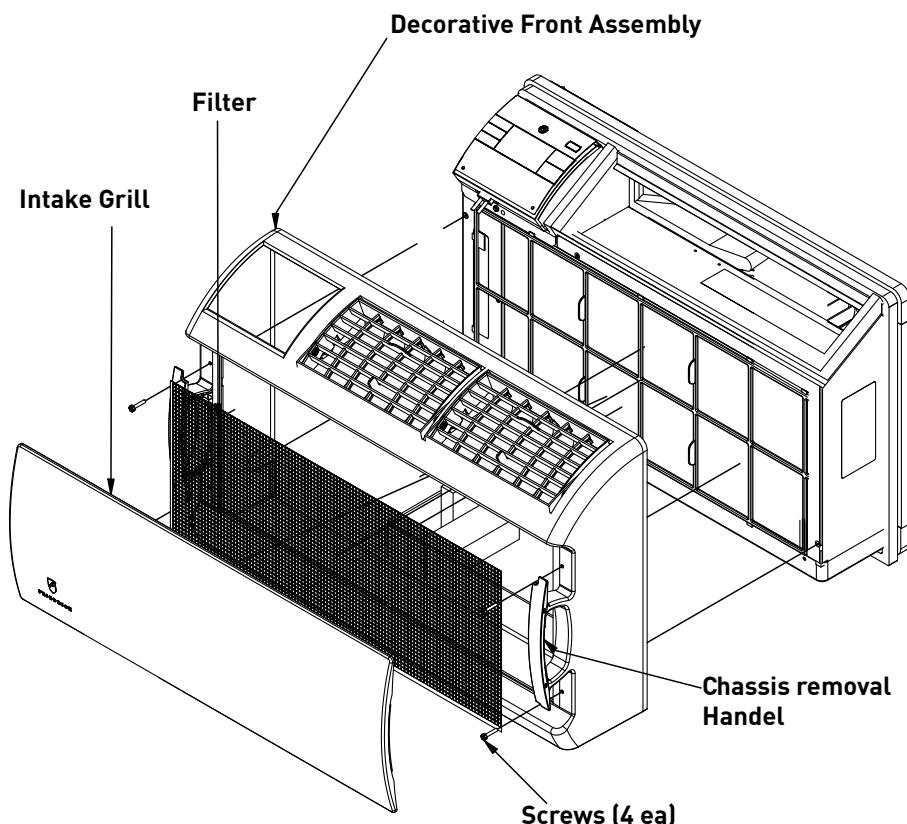

Figure 401 (Remove and Install the Decorative Front Assembly)
1. Remove the front grill. See Routine Maintenance Figure 401.